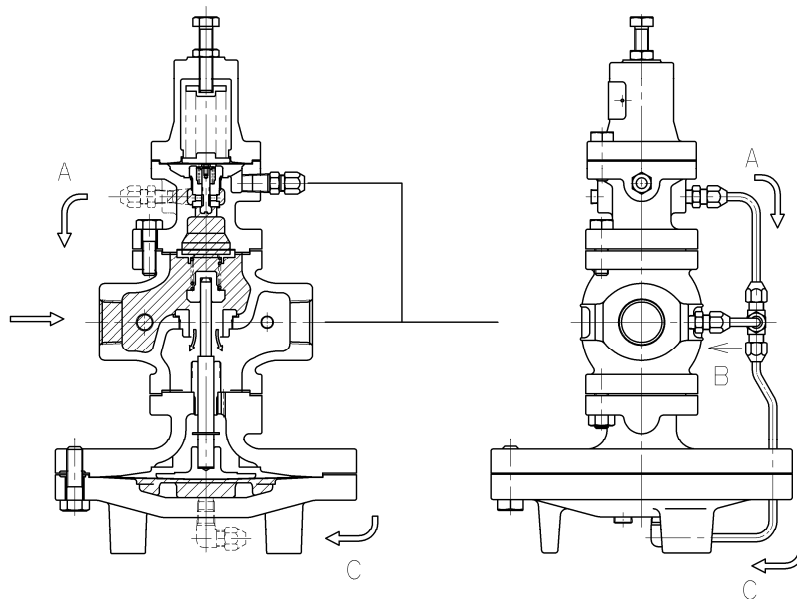

Fig. 3
- (3) When the flow rate at the pilot valve exceeds the flow rate at the orifice, operating pressure in the main diaphragm chamber raised and overrides the pressure on the upside of the main valve and the load of main valve spring [13] to open the main valve. The fluid then begins to flow from the inlet side. (Fig. 3)